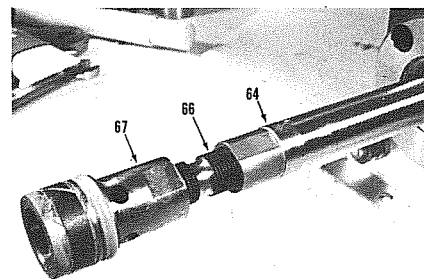

Figure 7-31, Assembling liquid piston and cap screw into oil cylinder.
7.6.2 Insert cap screw (66) into assembled liquid piston (67). Insert both into piston rod (64) and tighten with Allen wrench. After tightening, liquid piston (67) should still be able to be rotated easily with fingers. Daub Locktite[®] on threads of set screw (27) and install in piston rod (64) to lock cap screw (66). See Figures 7-31 and 7-32.